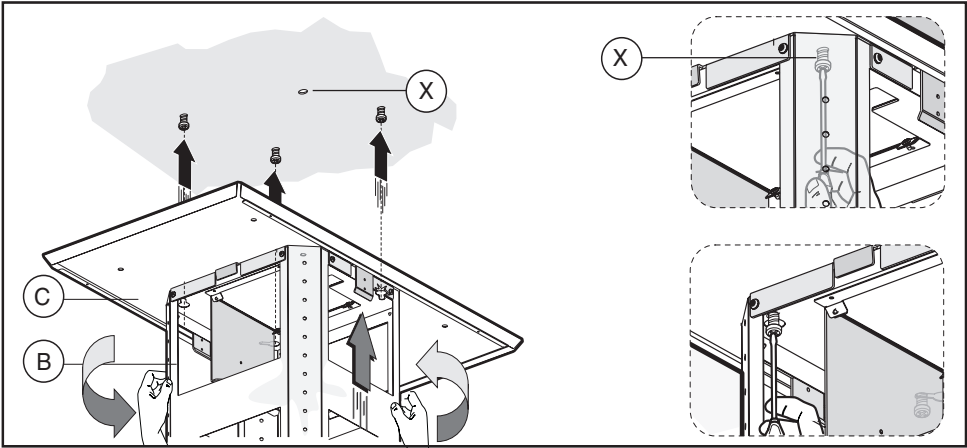

Fig.6
- Take the upper part of the structure **B** (fig.6) and insert the 3 slots onto the 3 screws that are not completely tightened.
Rotate slightly to fit (fig.6) .